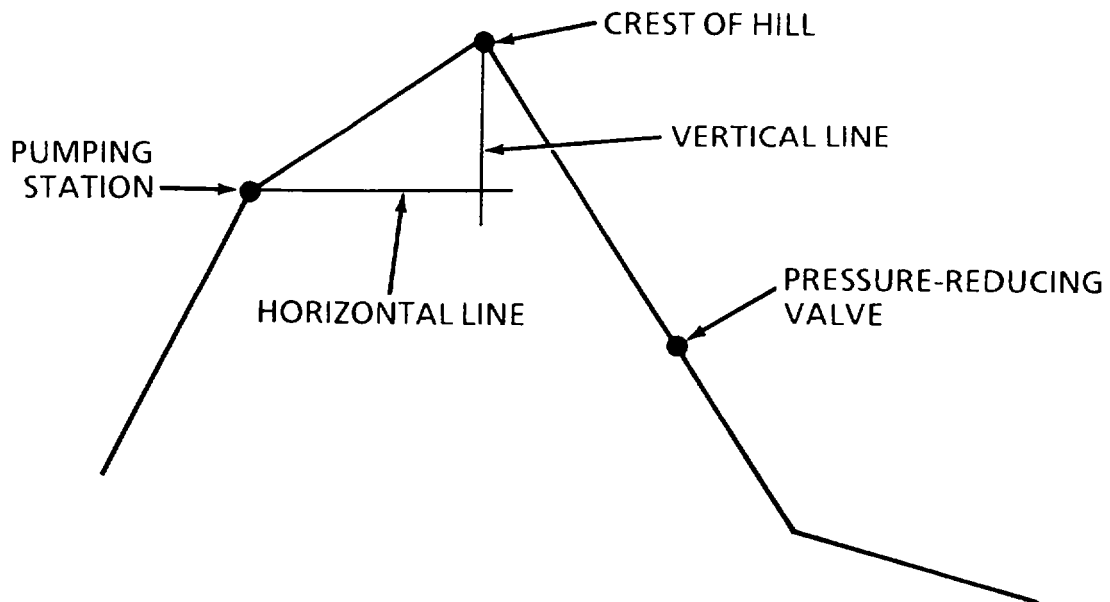

Figure 2-11. Locating Pressure Reducing Valve.
- (10) To determine the location of the second boost pumping station, place the zero mark of the spacing triangle on the first boost pumping station mark of the ground profile. Mark the point at which the spacing triangle hypotenuse crosses the ground profile. Mark the point at which the spacing triangle hypotenuse crosses the ground profile. This will be the location of the second boost pumping station. Locations of successive boost pumping stations are determined in the same way.
- (11) After locations of pumping stations have been plotted, check ground profile for any sharp declines in elevation along hoseline route. An excessive drop in elevation will significantly increase the pressure of water as it flows downhill. If pressure builds to 225 psig, hoseline can rupture and equipment failure will result therefore, when the ground profile indicates a sharp elevation drop along the route, a pressure reducing valve must be installed in the hoseline.
- (12) To determine the location of the pressure reducing valve, refer to the ground profile and proceed as follows, (refer to figure 2-11).